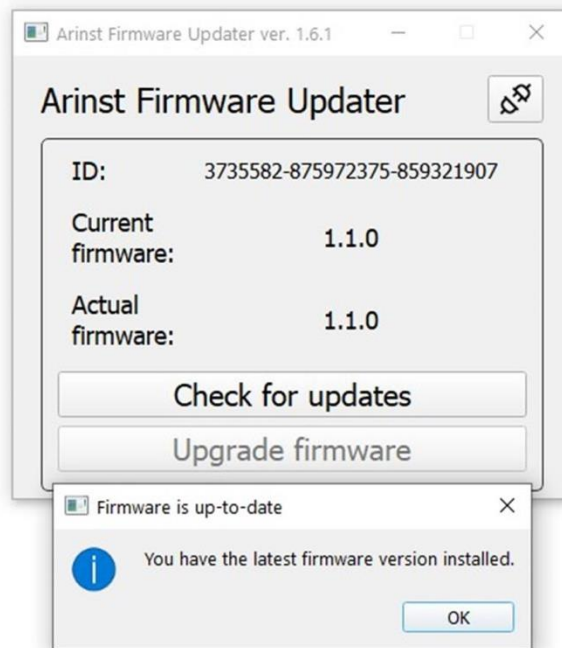

Figure A2.12 – Checking the version of installed firmware
**Note** – To make sure that the latest firmware version of the device is installed, click on the **Check for updates** button. The screen will display a message about the latest firmware version of the device installed (Figure A2.12).